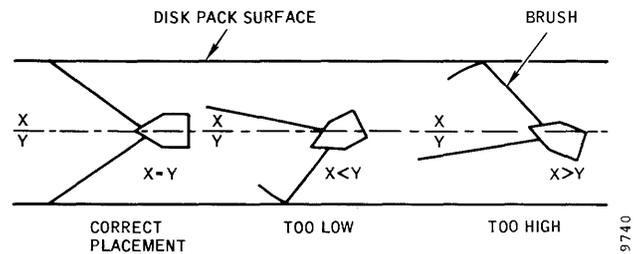

Figure 4-9. Brush Alignment Check
3. Inspect each set of brushes for evidence of incorrect brush-to-pack contact. See Figure 4-9. Incorrect contact is most often caused by a warped brush arm or one that has been aligned improperly.